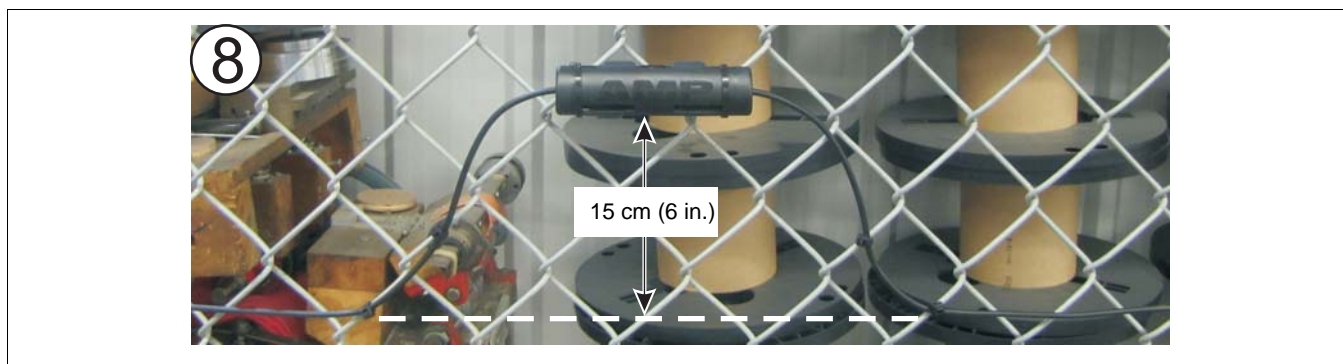

Figure 34: Mounting the splice enclosure
8. Attach the enclosure to the fence (see Figure 34:).